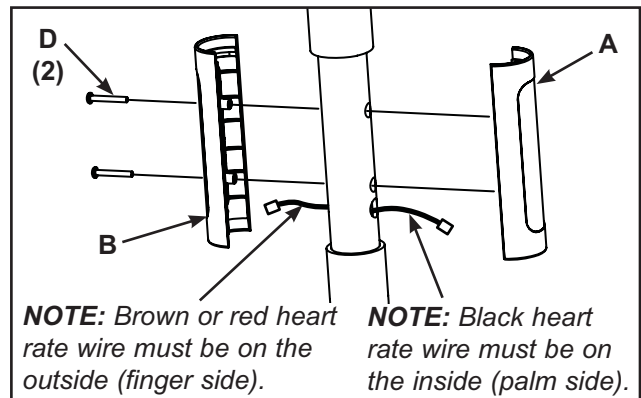

Figure 3
A. Using a Phillips screwdriver, remove the two screws securing the grips in place. See Figure 3.
B. Disconnect the heart rate wire from each grip. See Figure 3.
- C. Slide the brown or red wire through the large (upper) outside or finger side hole. Slide the black wire through the inside or palm side hole. See Figure 3.
- D. Connect the black wire to the tab on the top plastic sensor grip (A). See Figure 3.
- E. Connect the brown or red wire to the tab on the bottom plastic sensor grip (B). See Figure 3.
- F. Using a Phillips screwdriver, attach the two screws (D) securing the grips A and B in place. See Figure 3. **NOTE:** Do not over tighten grips.